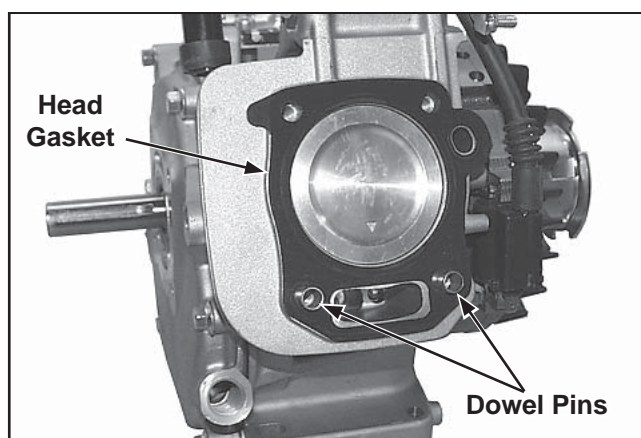

Figure 9-33. Remove Cylinder Head, Dowel Pins and Gasket.
5. Remove the cylinder head, dowel pins (2), and cylinder head gasket. See Figure 9-33.